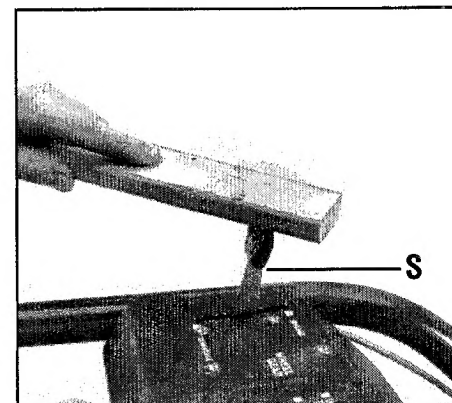

Figure 2-17: Attach wheel gear lever.
1. Route the wheel gear cable up the left-side handlebar and insert the lever (S, Figure 2-17) up through the slot in the control panel that is labeled "WHEEL GEAR."
4. Place the wheel gear lever knob on the end of the lever and use a board to tap the knob down until it seats firmly on the lever (see Figure 2-17).